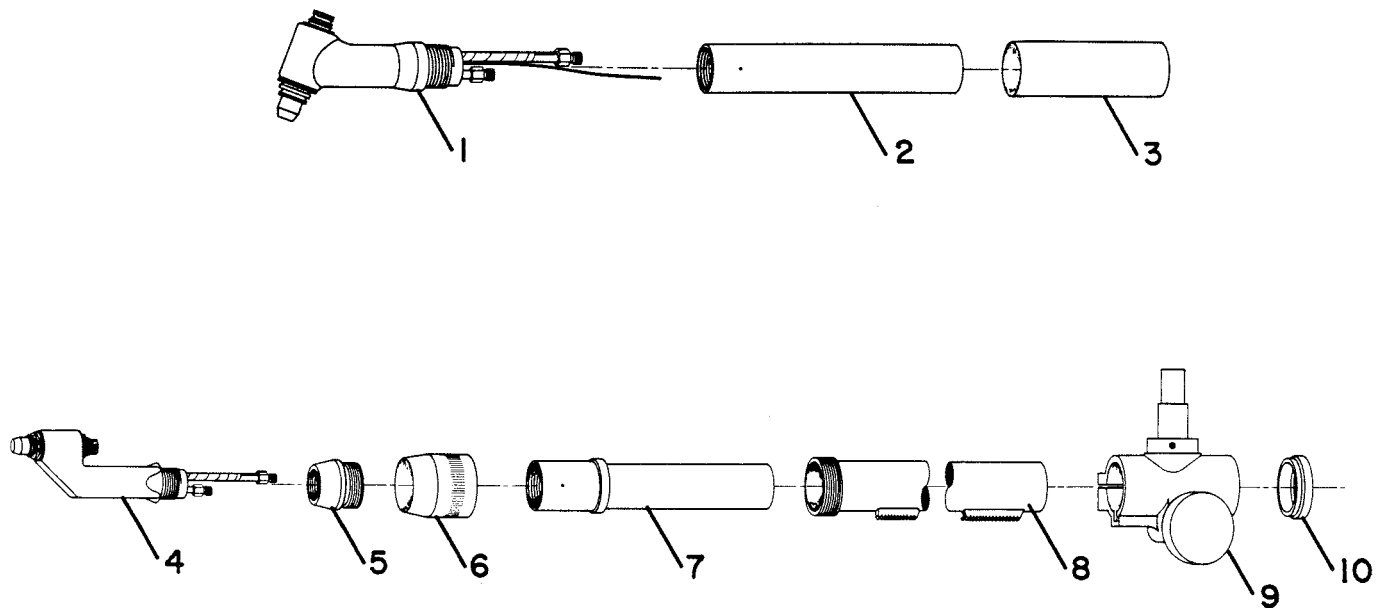

Figure 5-1 3A Welding Torch
- Figure 5-1. 3A Series Welding Torch